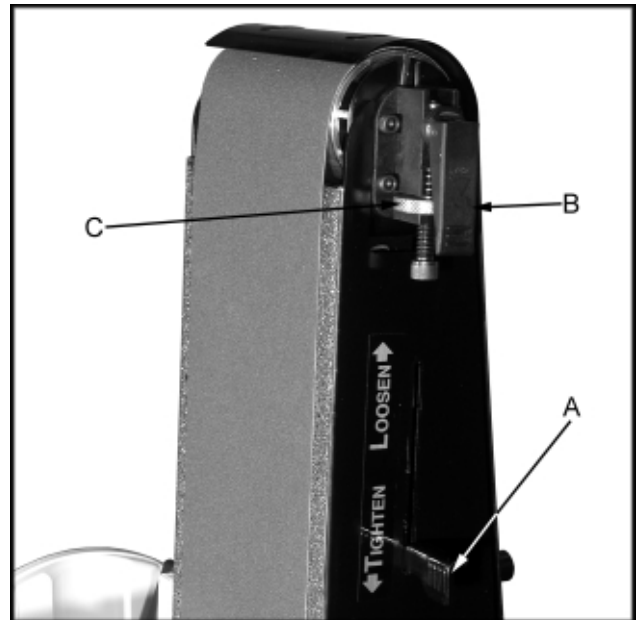

Fig. 10
2. Disconnect the machine from the power source. Move the tension handle (A, Fig. 10) to the "Loosen" position. Center the belt again and move the handle to the "Tighten" position.
3. Release the tracking lock (B, Fig. 10) by pulling up on the handle. If the belt has a tendency to track left of center, turn the adjusting knob (C, Fig. 10) counterclockwise until the belt tracks in the center.
6. Fine tune tracking by turning the adjusting knob (C, Fig. 10).